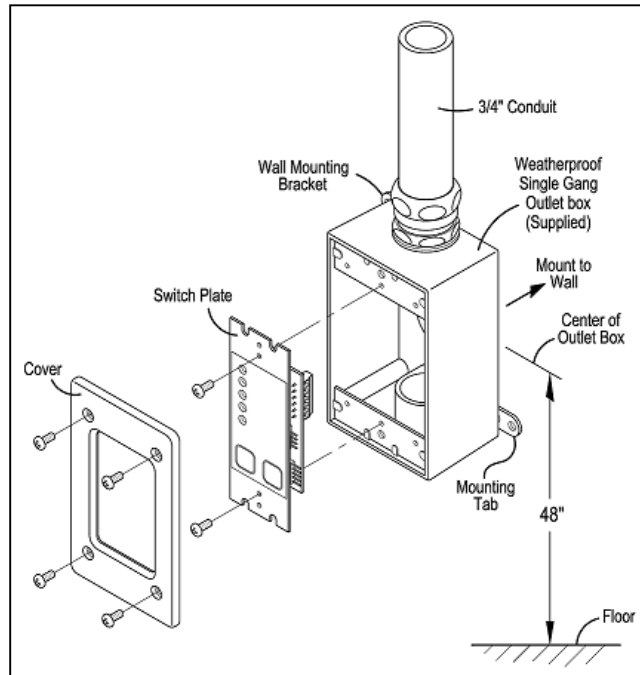

Figure 8
1. Locate the Control Module unit (**Figure 8**).
2. Remove the cover and switch plate from the Control Module weather-proof box (**Figure 8**).
3. Locate the most convenient spot for the Control Module and mount it to a wall or pole four (4) ft. above the floor. It needs to be located within a 14' cable length from the EVSE.